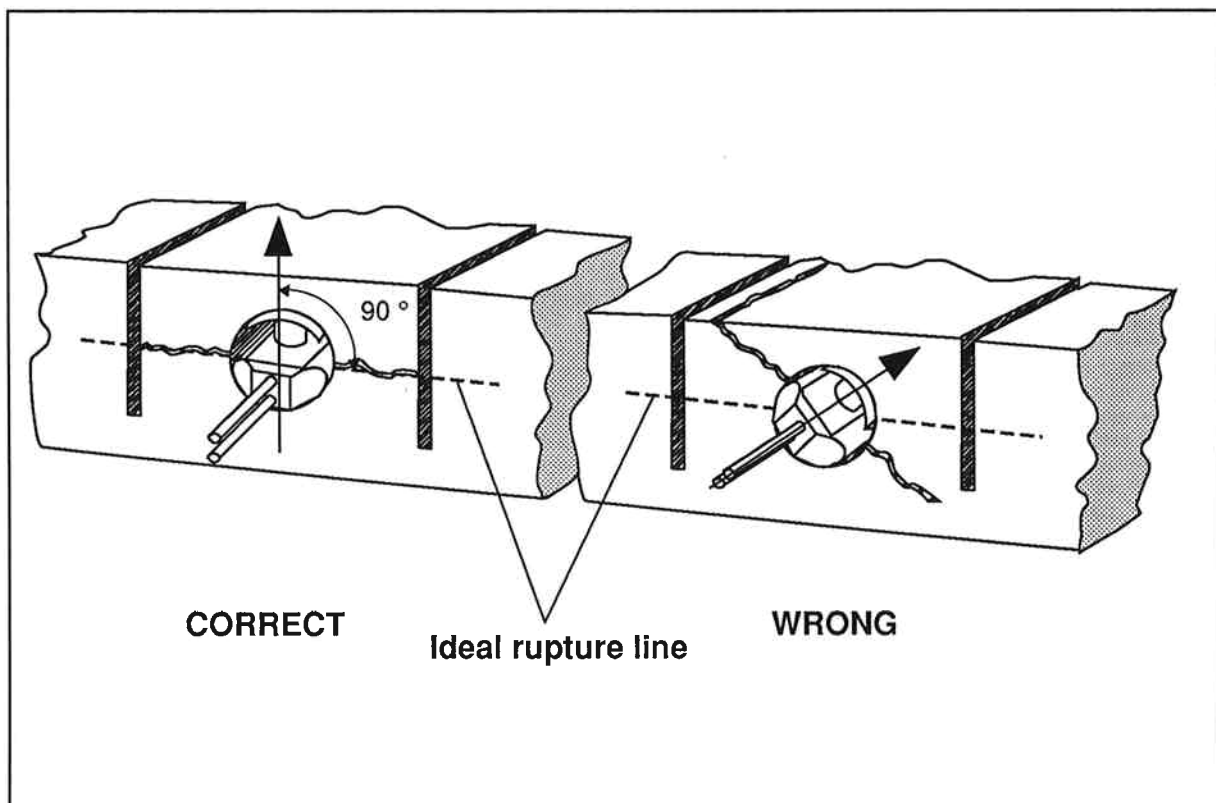

Fig. 5-6 Insertion of Burster Elements into Borings
- Insert the burster elements into the borings so that the pistons are in perpendicular position to the rupture line (see Fig. 5-6).